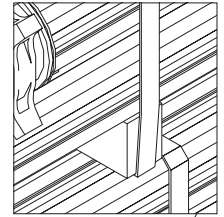
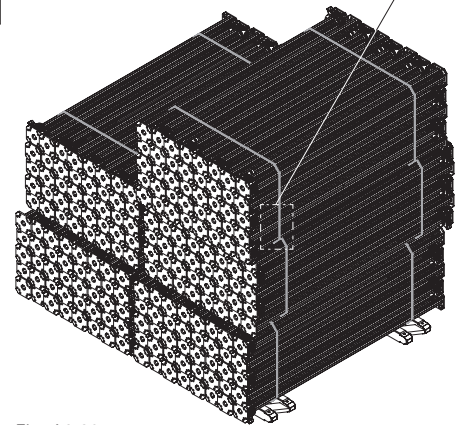

Fig. A8.02a
Fig. A8.02
- MULTIPROP MP with support timber and steel band. (Fig. A8.02 + Fig. A8.02a)